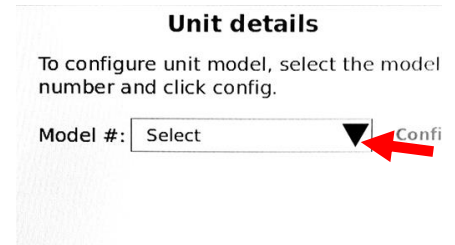

Figure 16
26. The controller displays the model # configuration screen (see Figure 16).
27. Press the down arrow (see Figure 16)